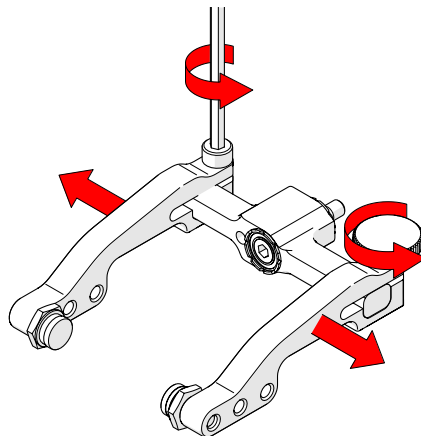

Fig. 52 - Remove arms
2. Loosen the probe holder arm adjustment knob and arm clamp screw. Slide the arms from the yoke (Fig. 52).